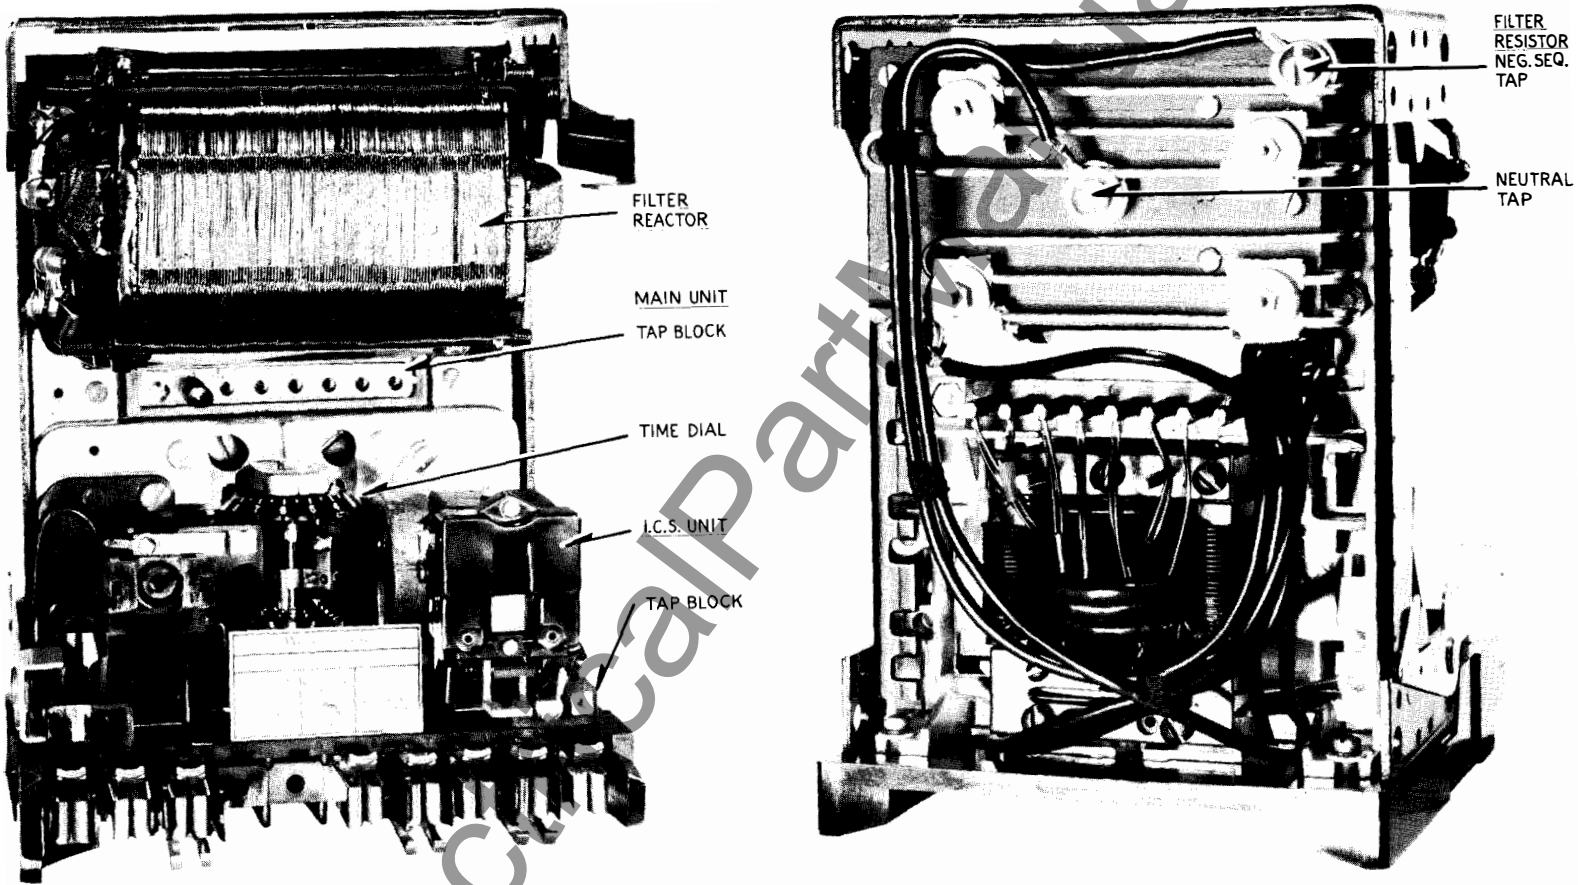
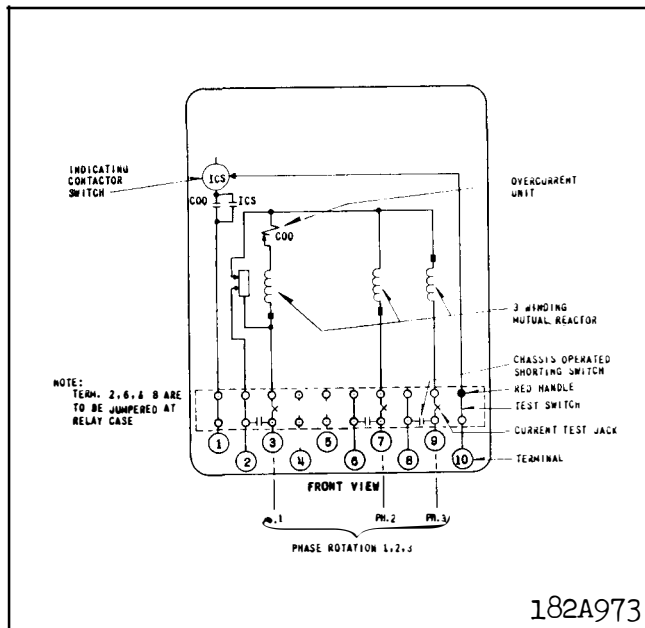
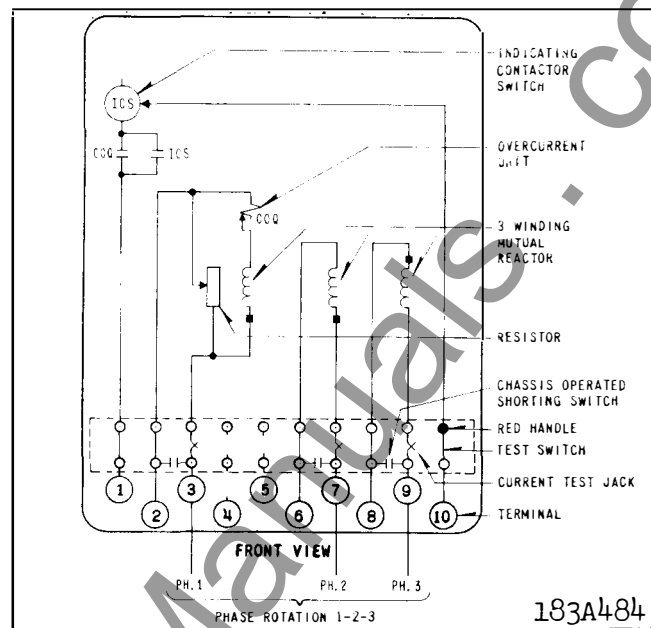

Fig. 1. Type COQ Relay - Without Case.
Fig. 2. Internal Schematic of the Type COQ Relay in the FT21 Case - Neutral Formed in Relay.
Fig. 3. Internal Schematic of the Type COQ Relay in the FT21 Case - For Forming Neutral External to Relay.
The COQ is used to prevent a synchronous machine from being damaged due to negative sequence fault currents. Two varieties are available, as shown in figures 2 and 3, depending upon whether the neutral can be formed at the COQ or whether the neutral must be formed elsewhere. (See external schematic, figures 8 and 9.)
- e. Now measure the voltage across the resistor. Adjust top filter resistor position until this voltage is 1.73 times the reading from (d) above. (For relays wired per figure 2 connect the voltmeter to switch jaw 3 and to the top filter resistor screw connection (see figure 1). (For relays wired per figure 3 connect voltmeter across switch jaws 2 and 3.)
To eliminate zero sequence response (relays wired per figure 2 only), remove tap screw, and connect per figure 10: Apply  $I_x = 5$  amperes;  $I_y = 10$  amperes. Measure voltage from terminal 3 to top filter resistor screw connection (see figure 1). Adjust the neutral filter resistor tap until measured voltage is zero.